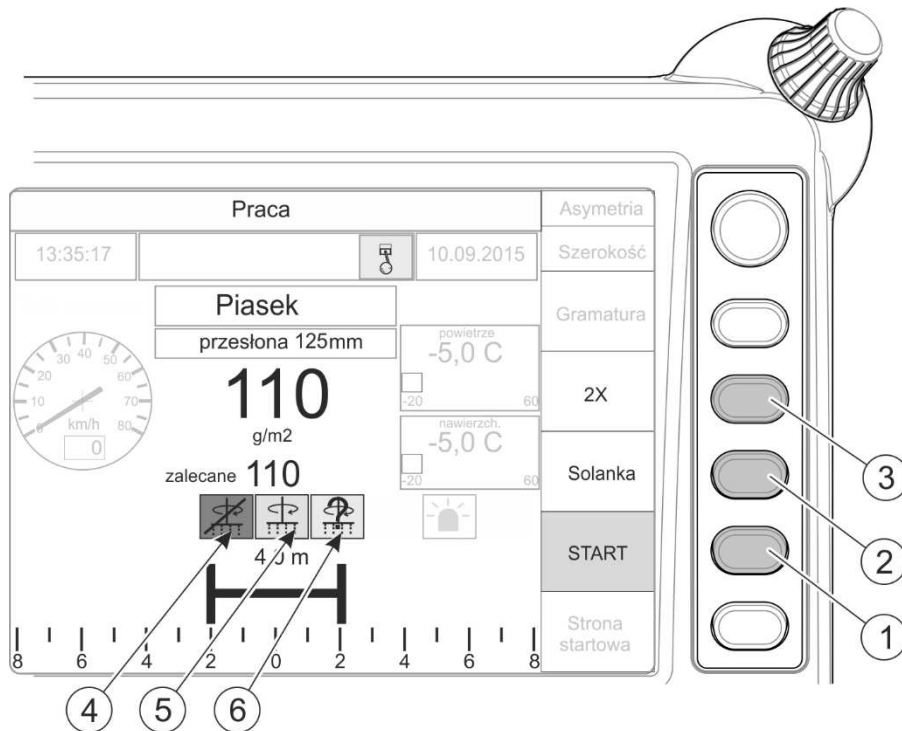

FIGURE 4.23 Start of spreading
On control panel working page "Operation" (FIGURE 4.23) , activate spreading by means of push-button (1); "Start" function will be highlighted. Activation of spreading disc drive and belt conveyor is signalled by indicator light (4), (5), or (6). Brine spraying is switched on and off by means of push-button (2) "Brine" (not active for sand). Push-button (3), marked „2X”, is used for momentary doubling of spreading material dose.